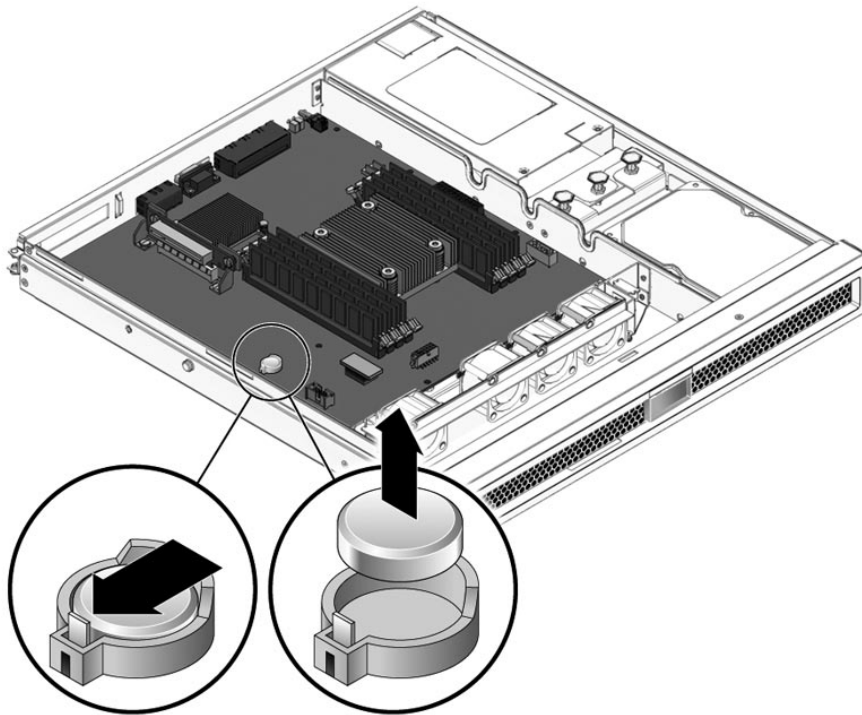

FIGURE 5-12 Removing the Clock Battery From the Motherboard
2. Using a small flathead screwdriver, carefully pry the battery from the motherboard (FIGURE 5-12).